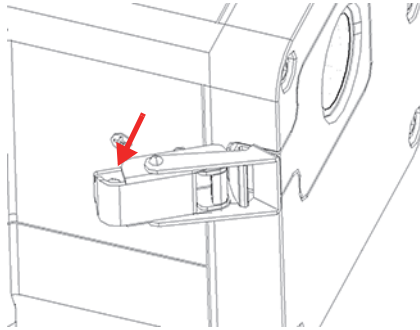

Figure 4-2 Latch pulled out
3. Pull out the rear of the latch to release the tension on the faceplate (Figure 4-2 on page 62).